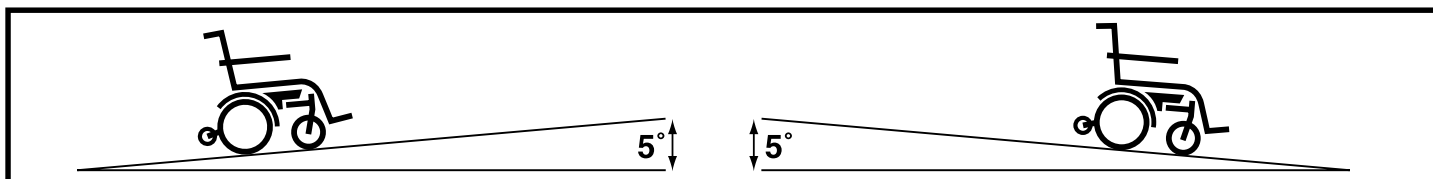

Figure 1. Maximum Safe Slope (Ascending and Descending)
**WARNING! Even though your power chair is capable of climbing slopes greater than those illustrated in figure 1, do not, under any circumstances, exceed the incline guidelines or any other specifications presented in this manual. Doing so could cause instability in your power chair, resulting in personal injury and/or damage to your power chair.**
In compliance with the Americans with Disabilities Act of 1990, all handicap public access ramps are required to have a maximum slope of 5°. Therefore, Pride recommends that the maximum slope of an incline you attempt to safely ascend or descend on your power chair does not exceed 5°. See figure 1.